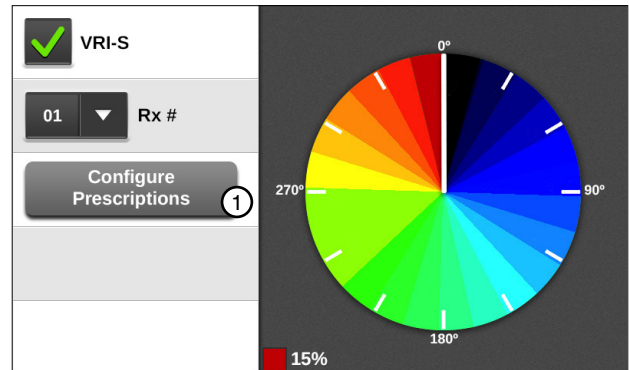

Figure 161-1 VRI-S Screen
The Configure Prescription button is used to select, edit, review, and load prescription numbers and sectors. Push **Menu, Programs, VRI-S**, and push the **Configure Prescriptions** button to view the Configure Prescriptions screen. Refer to Figures 161-1 and 161-2.
1. Push **Menu, Programs, VRI-S** to display the VRI-S screen. Refer to Figure 161-1.